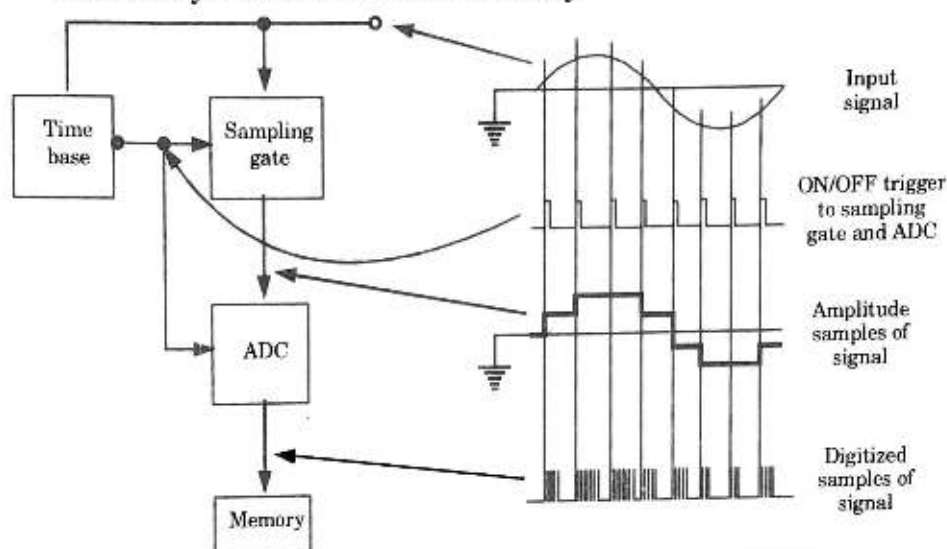

Fig. 4.8.2. Basic sampling and storage system for a DSO.
2. The block diagram of a basic sampling and storage system for DSO is shown in Fig. 4.8.2